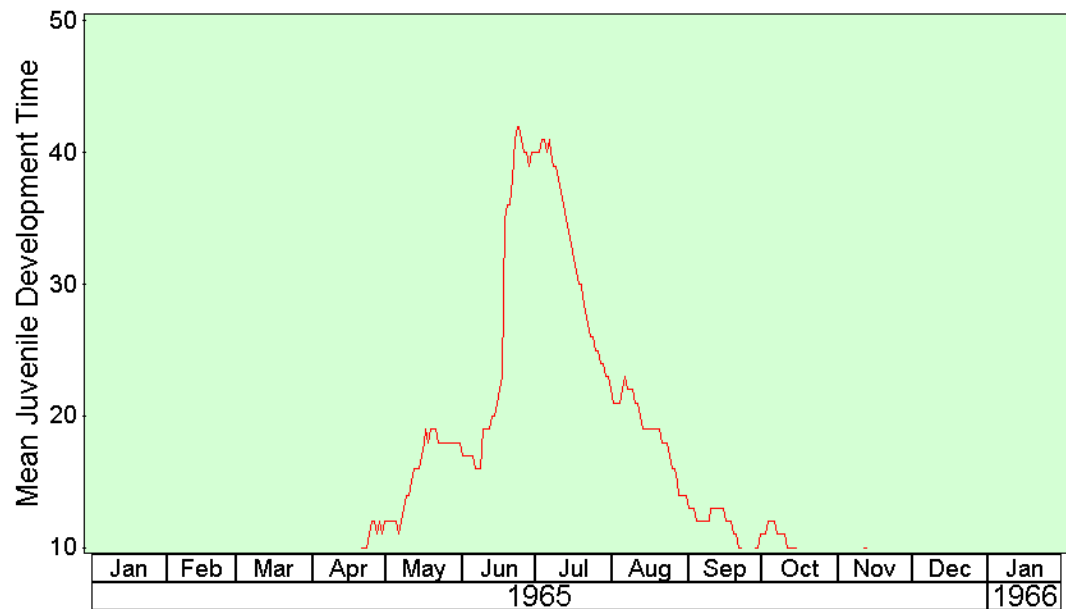

Figure 3-7 Juvenile development time with user-defined scaling
8. Select **“Ok”** as necessary to produce the chart, which should be similar to Figure 3-7.